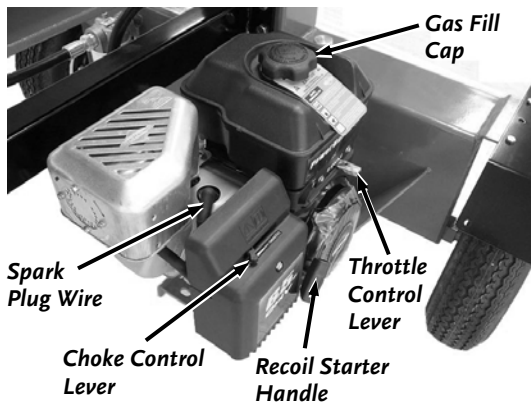

Figure 27
7. Fill the engine's fuel tank to within about 1-1/2" of the neck with fresh, clean, lead-free automotive gasoline (Figure 27).